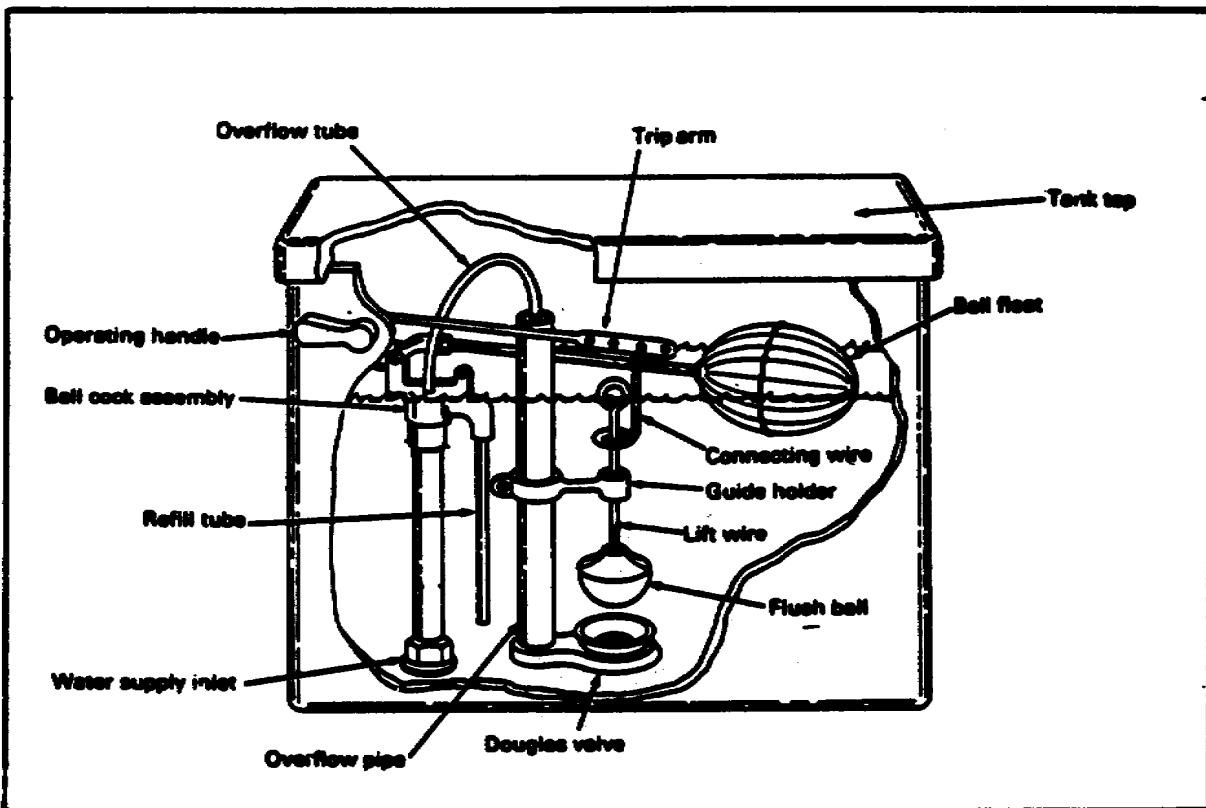

FIGURE 32. ADJUSTING BALL COCK MECHANISM
*Adjustments for ball cock type flushing mechanism.* Use the following steps to adjust a ball cock type flushing mechanism (see Figure 32):